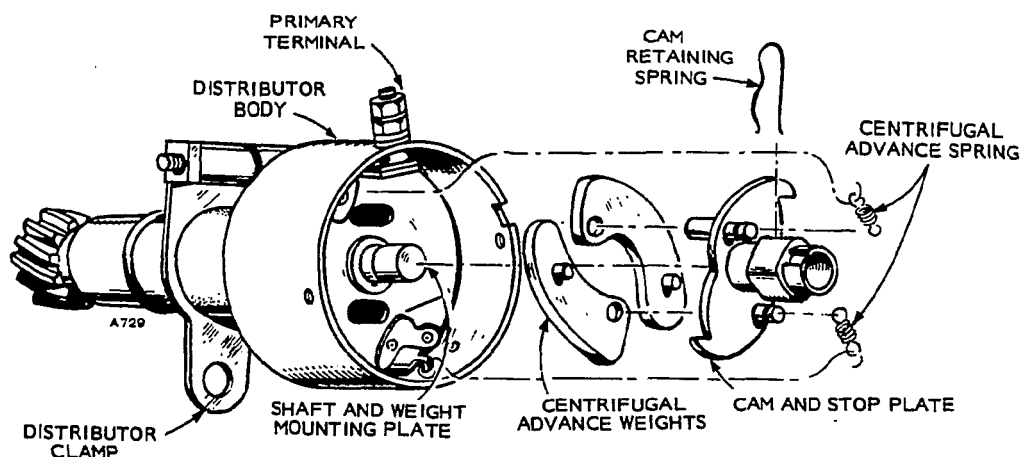

FIGURE 50. DISTRIBUTOR CENTRIFUGAL ADVANCE
1. Remove distributor cap and primary lead from distributor primary terminal (Figure 50).